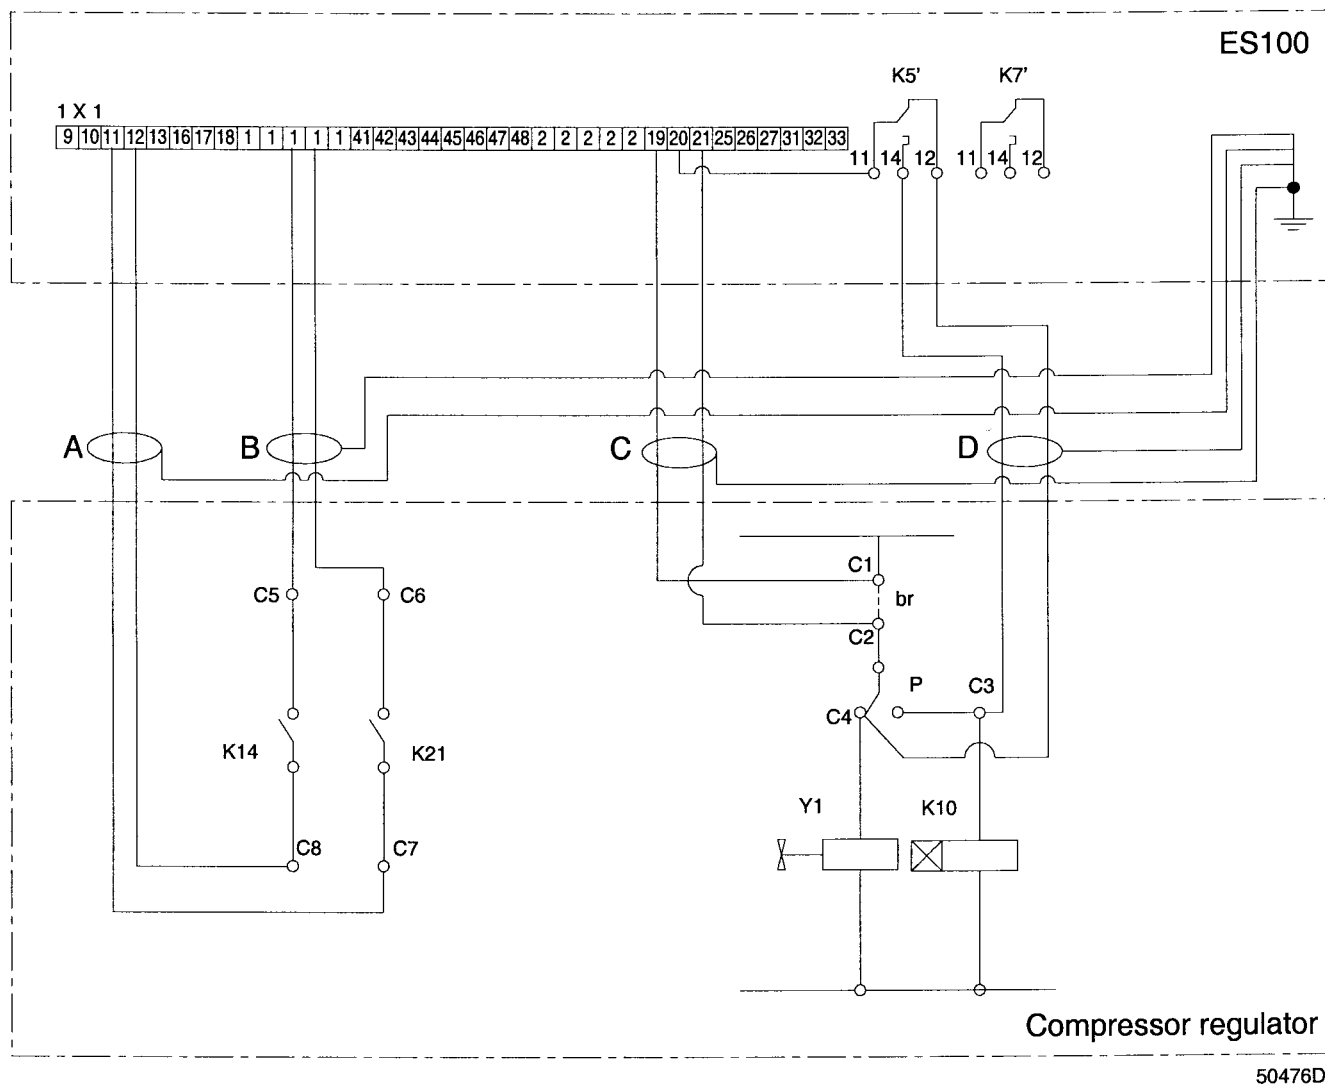

Fig. 2.14. Electrical connections of relay-controlled regulator to ES100
## 2.2 Relay-regulated compressors (Fig. 2.14)
- 2) The terminal numbers to be used in the compressor cubicle differ depending on the compressor type. Therefore, in Fig. 2.14, these terminals are numbered from C1 up to C8. Consult the electrical diagram in the compressor cubicle to determine the correct terminal numbers.